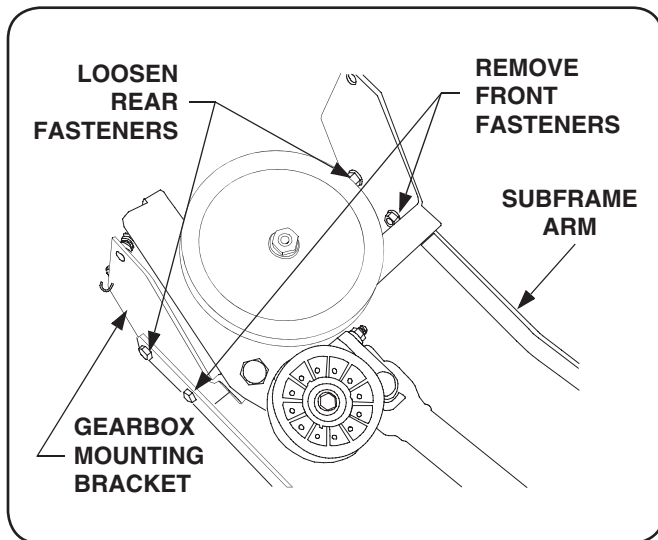

Figure 5-1
2. Units with 15" front tires ONLY. Remove the front hex flange lock nuts and cap screws securing the gearbox mounting bracket to the subframe arms. Loosen the rear fasteners. See Figure 5-1.
8. Units with 15" front tires ONLY. Remove the front hex flange lock nuts and cap screws securing the gearbox mounting bracket to the subframe arms. Loosen the rear fasteners (Refer to Figure 5-1).